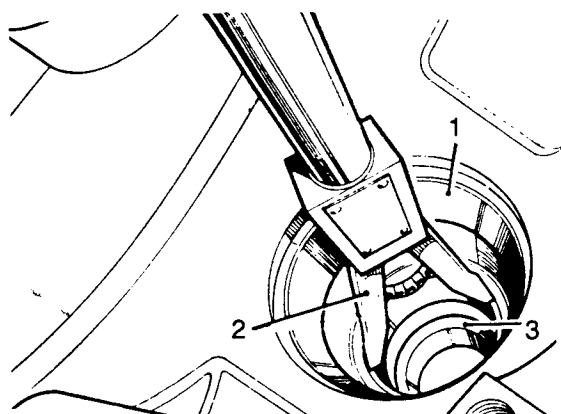

Fig J2.24
- (5) Refer to Fig J2.24. Extract the pinion inner bearing cup and shim washers (1) from the casing using special tool S123A (2). Note the shim washer thickness.
- (6) Extract the pinion outer bearing cup (3) from the casing using special tool S123A.